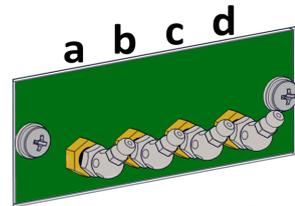

Figure 29 - Greasing Panel
1. Locate the greasing panel (Figure 29).